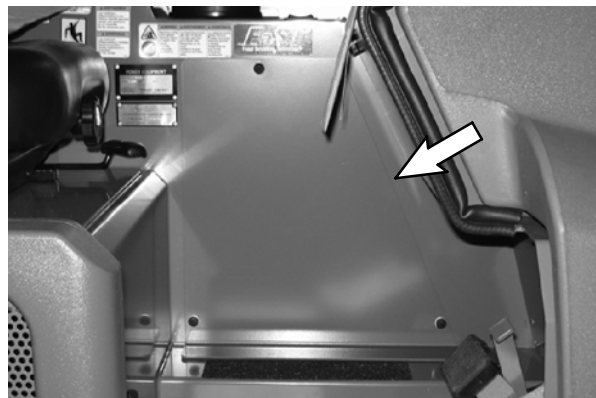
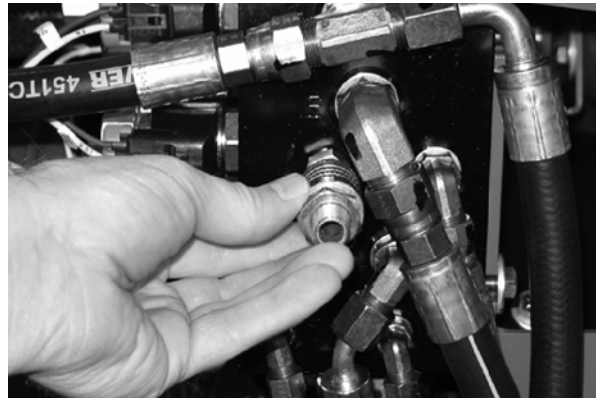

FIG. 2
FIG. 21
8. Remove the engine access panel from the operator compartment. Set the access panel and hardware aside. Refer to Fig. 2.
16. Hold a quick-disconnect fitting up to Port G1 on the scrub block. **DO NOT** install the quick-disconnect fitting into the port. The fitting in Port M1 on the scrub block should be positioned next to the quick-disconnect fitting held onto Port G1 as shown in Fig. 21.
17. If necessary, rotate the fitting in Port M1 on the scrub block toward the quick-disconnect fitting. Allow just enough clearance to engage/disengage the quick-disconnect fitting. Refer to Fig. 21.
18. Reinstall the access panel into the operator compartment. Refer to Fig. 2.
19. Discard the old parts manual (REV. 00) and replace it with the new updated parts manual (REV. 01) (26).
22. If the fitting in Port M1 on the scrub block was rotated, check the fitting for leaks. Refer to Fig. 21.